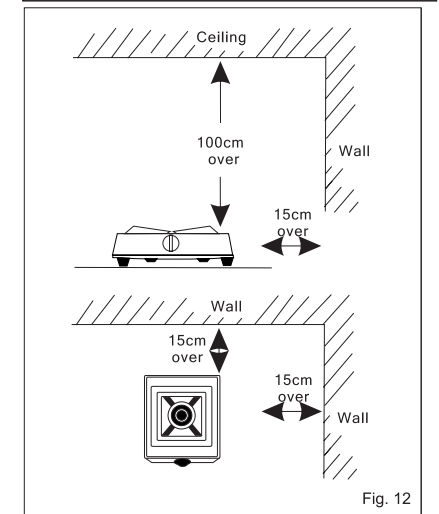

Fig. 12
- When choosing a place to put the gas cooker, be sure to pick a spot that is firm and level. The gas cooker need plenty of space and air. Allow at least 15cm of space on the sides and 100cm above the unit (Fig. 12). If the space is less than 15cm from the in-flammable walls, be sure to provide a heat insulation board. Also be sure to keep paper, oil and all other inflammable objects away from the gas cooker.